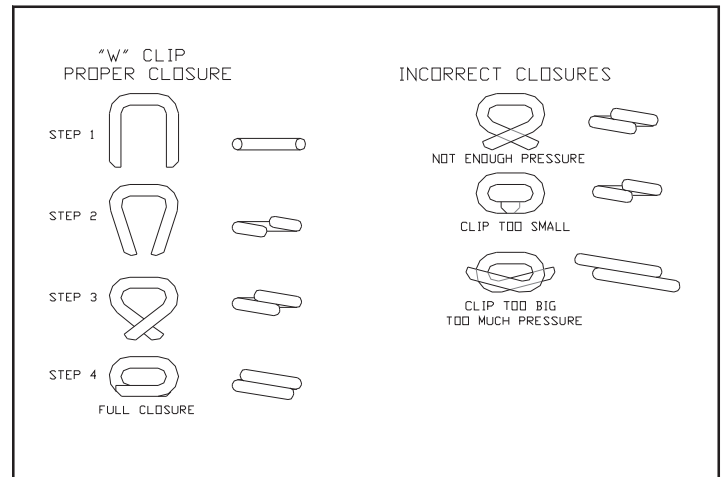

Figure 4-4
- See figure 4-4 for proper crimp comparison.